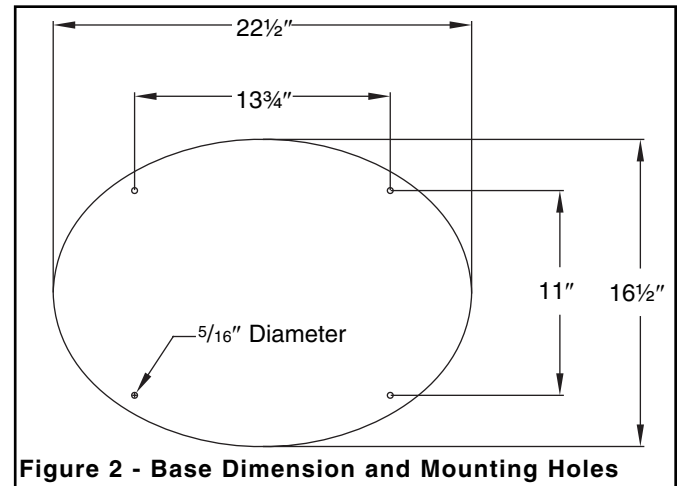

Figure 2 - Base Dimension and Mounting Holes
Refer to Figures 2 - 5.
Refer to Figure 2.
- Figure 2 shows the base dimensions and mounting holes.